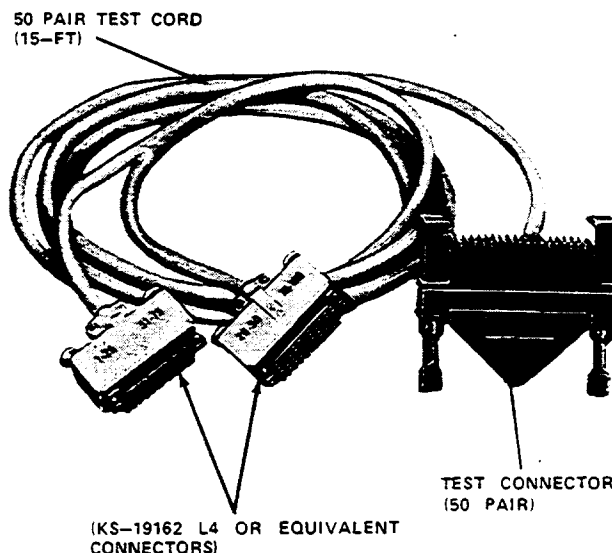

Figure 15—C-4920 Multiple Pair Test Connector — For 303-Type Connectors
6.08 The Communication Technology Corporation C-4920 multiple pair test connector (Figure 15) is used on the 303-type connector for pair identification.